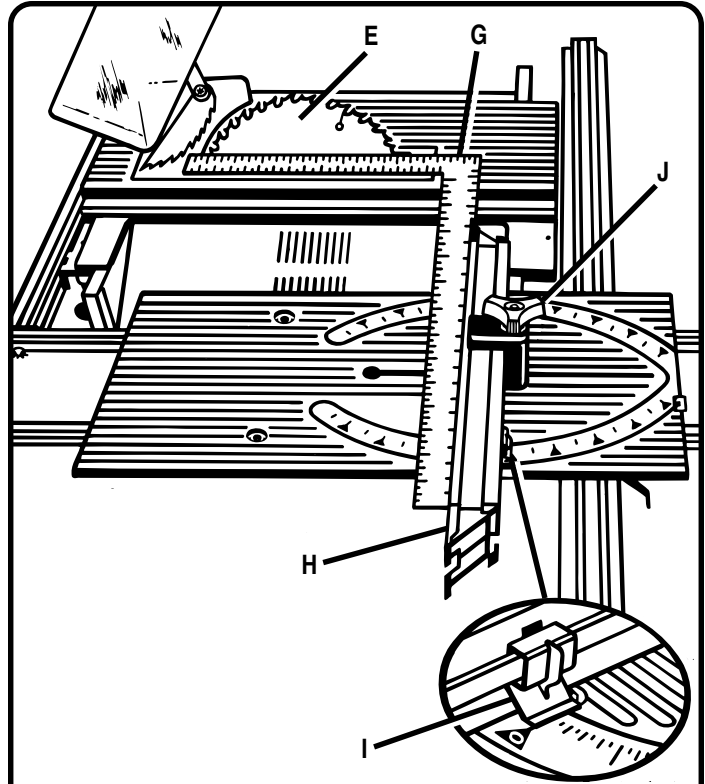

Figure 52: Miter Table Alignment
1. Set the miter fence (H) at 0° as shown in figure 52. Miter indicator (I) should be set precisely on 0° and secured in place with adjusting clamp (J).
2. Place a framing square (G) firmly against the miter fence (H), with the other side against the blade (E). See Figure 52.